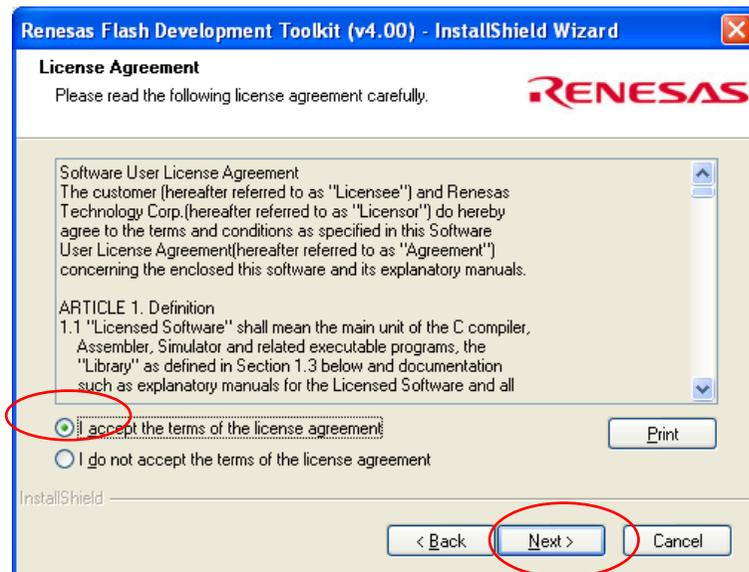

Figure 58:
6. Read and accept the terms of the license agreement then select next (Figure 58)